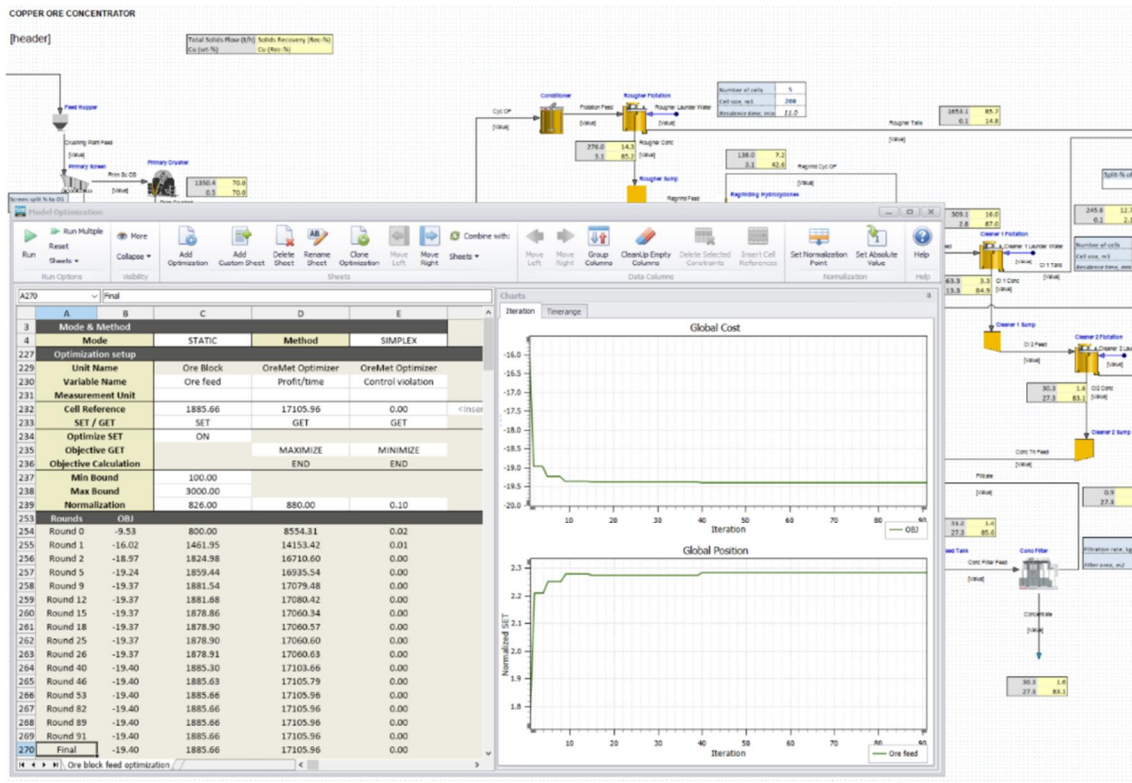

Figure 3. The new Model Optimization tool allows optimizing of process performance.
- New tool for model optimization. See **Figure 3**.